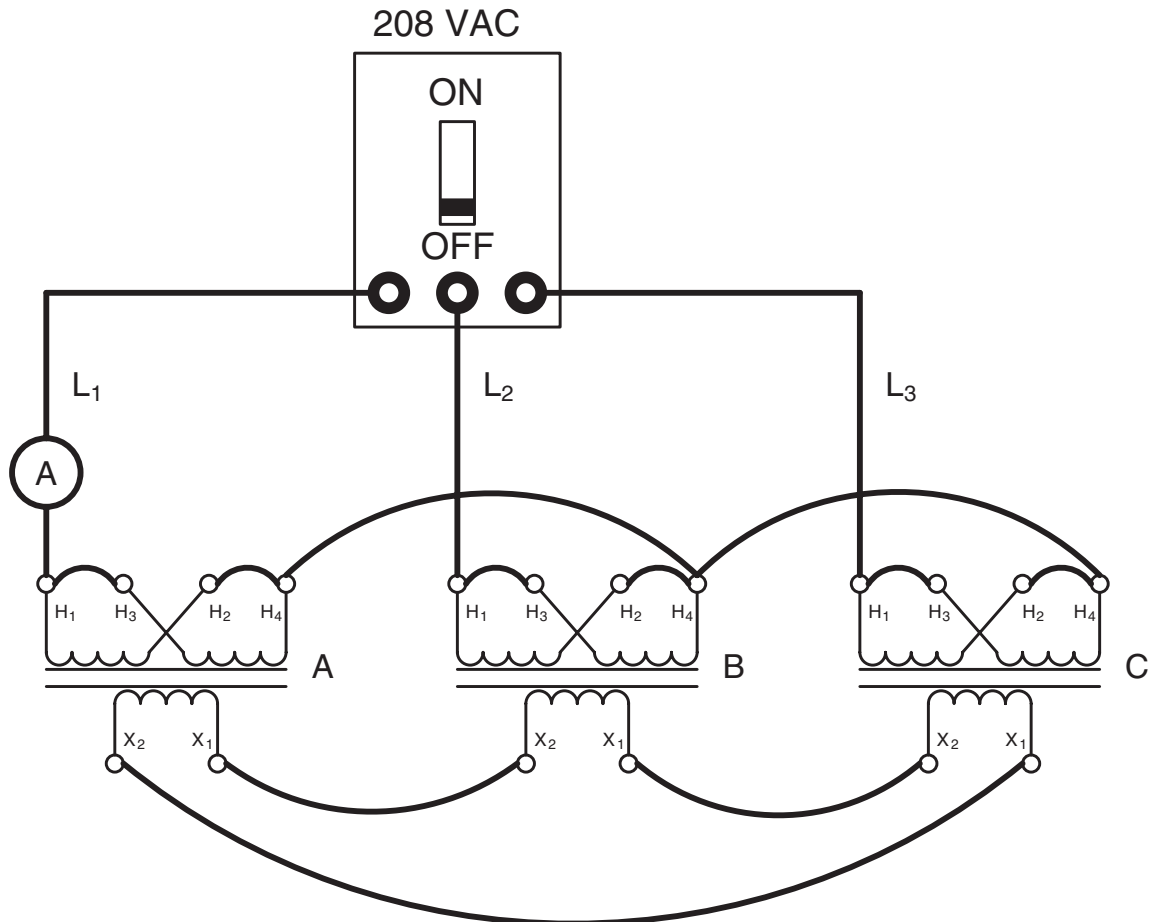

Figure 24-23 Transformer bank with a wye connected primary and delta connected secondary.
37. Reconnect the transformers as shown in Figure 24-23. For the first part of this experiment, be sure that no load is connected to the secondary.